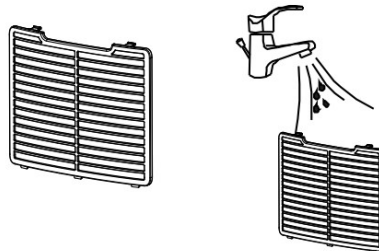

Fig.2
2. Gently clean the filter with a vacuum cleaner to remove dust. If necessary, wash the filter with warm soapy water **DO NOT USE ALCOHOL, BENZENE OR OTHER AGGRESSIVE PRODUCTS** (Fig.2).